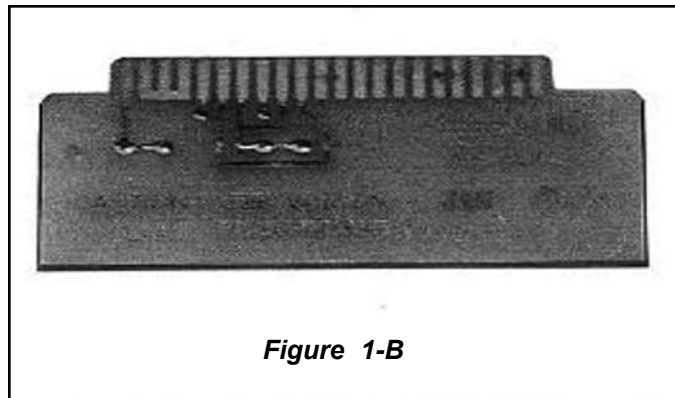

Figure 1-B
3. Using a carpenters square, advance the radius die until the back gates are at a true 90 degrees, contacting the inside of the square evenly across the front. (See figure 1-A)
The back gates on digital models should close at a slight negative angle. This is to compensate for the initial 1/8" of forward travel (or movement) the gate needs to allow the trip arm to deactivate the zero angle micro switch and start the counting process. (See figure 1-B)
(See figure 1-B)
(See figure 1-C)